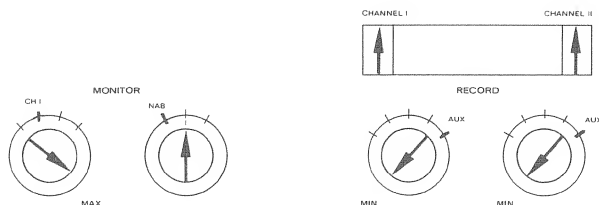

Fig. 6.3–53
- Set controls per fig. 6.3 –53.